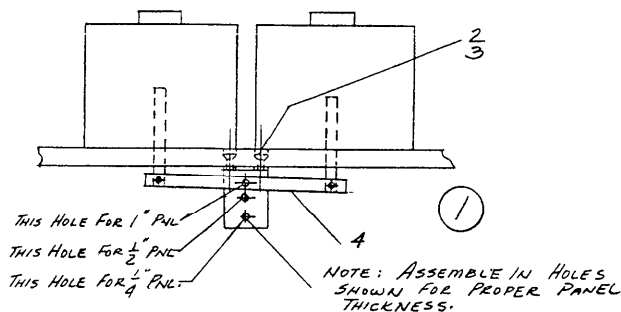

Fig. 2
- A. Mount interlock as shown in Fig. 2 with 10-32 flat head screws.
Set one breaker in ON position. Interlock should now prevent the second breaker from being turned ON. If both breakers can be set in ON position at the same time, it is necessary to adjust the interlock for proper depth. See Fig. 2.